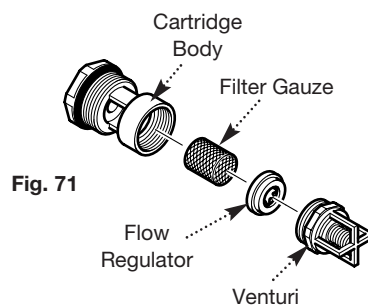

Fig. 71
12.23 Flow Regulator (Figs. 71 & 72)